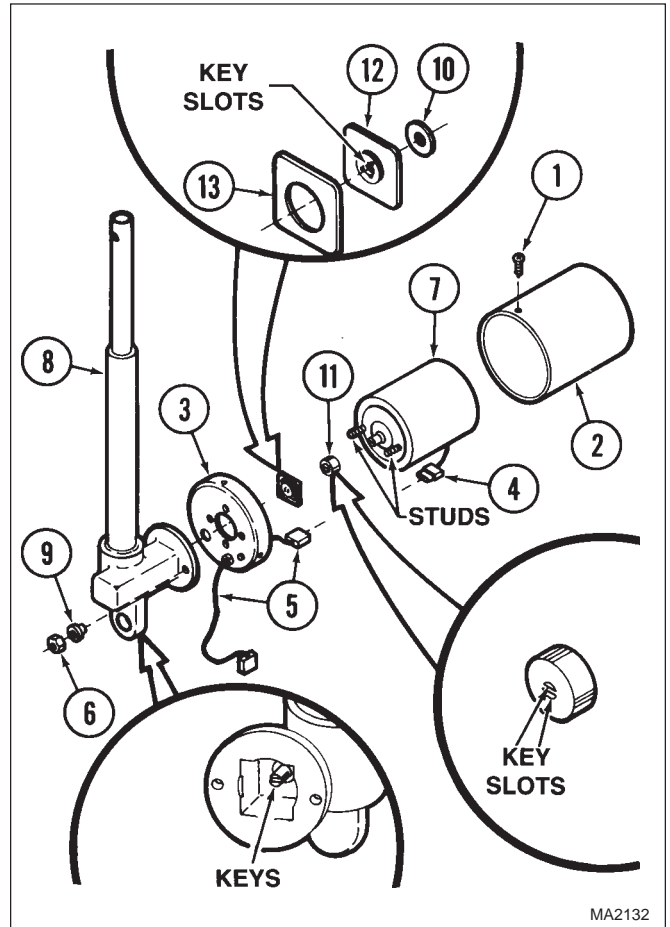

Figure 4-6. Back Actuator Disassembly / Assembly
- (1) Remove three screws (1, Figure 4-6) and motor cover (2) from motor cover mount (3).
- (2) Disconnect motor assembly wire harness (4) from back actuator wire harness (5).
- (3) Remove two nuts (6), motor assembly (7), and motor cover mount (3) from actuator mechanism (8).
- (1) Install rubber damper (13, Figure 4-6), actuator brake (12), and spacer (10) in actuator mechanism (8). Press parts firmly into actuator mechanism to ensure they are seated properly.